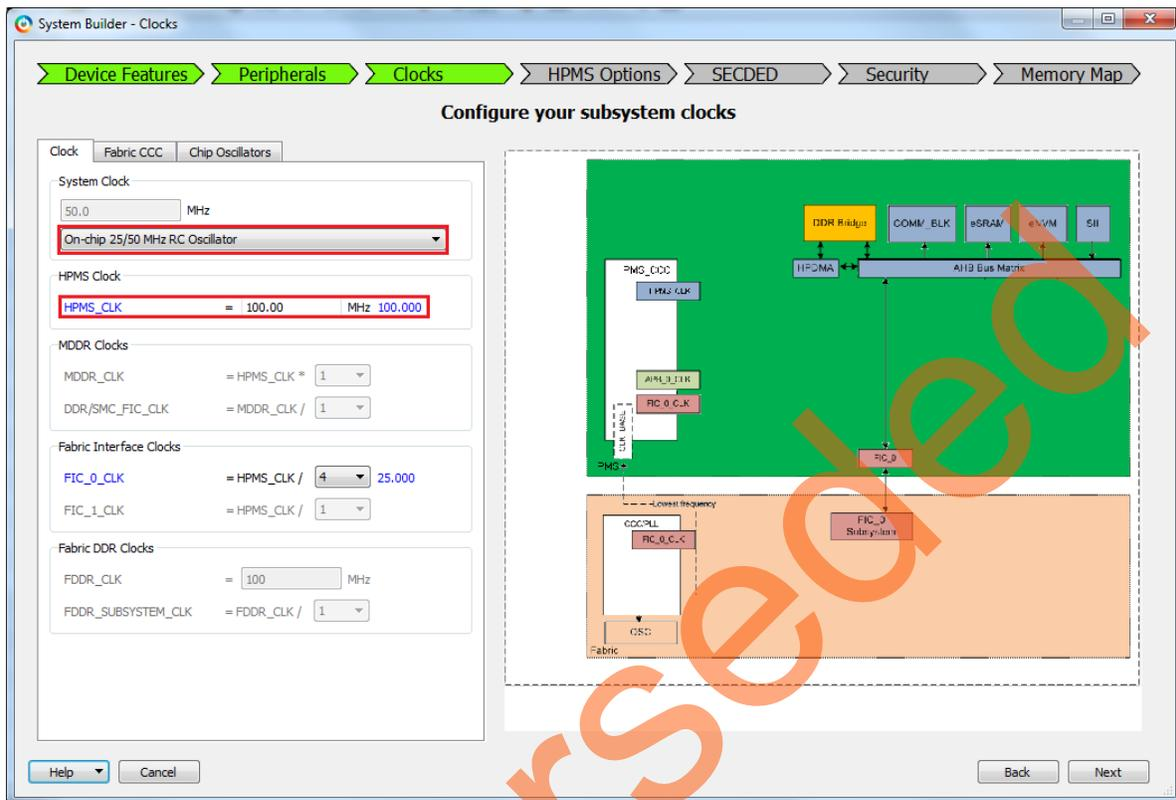

Figure 9 • System Builder – Clocks Tab
- Click **Next**. The **System Builder – Clocks** tab is displayed, as shown in Figure 9. Select **System Clock** source as **On-chip 25/50 MHz RC Oscillator** and **HPMS_CLK** as **100 MHz**.